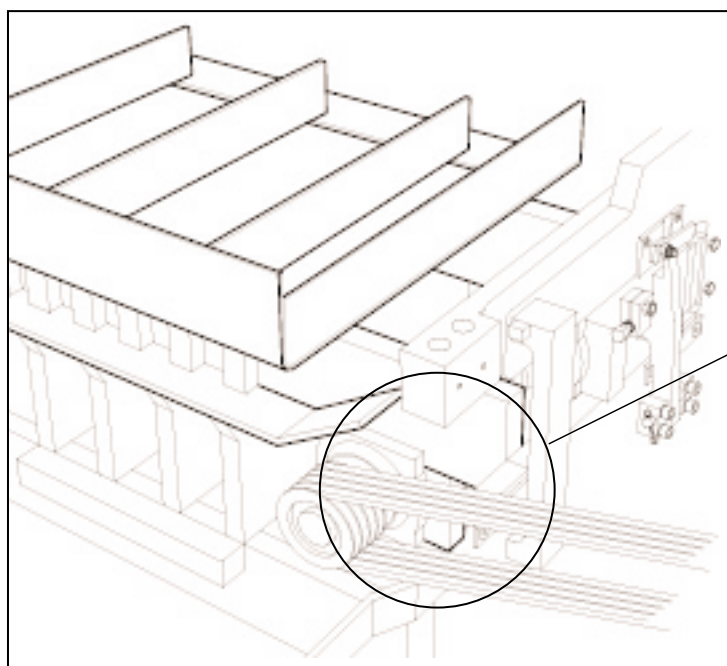

Figure 5.21 CENTERING THE MOLD.
5.5.17 Check for centered position in machine. Mold is centered when mold side bars are approximately 1" [25.4mm] between vibrator bearing blocks and the inside of mold throat plates (see figures 5.21 and 5.22).